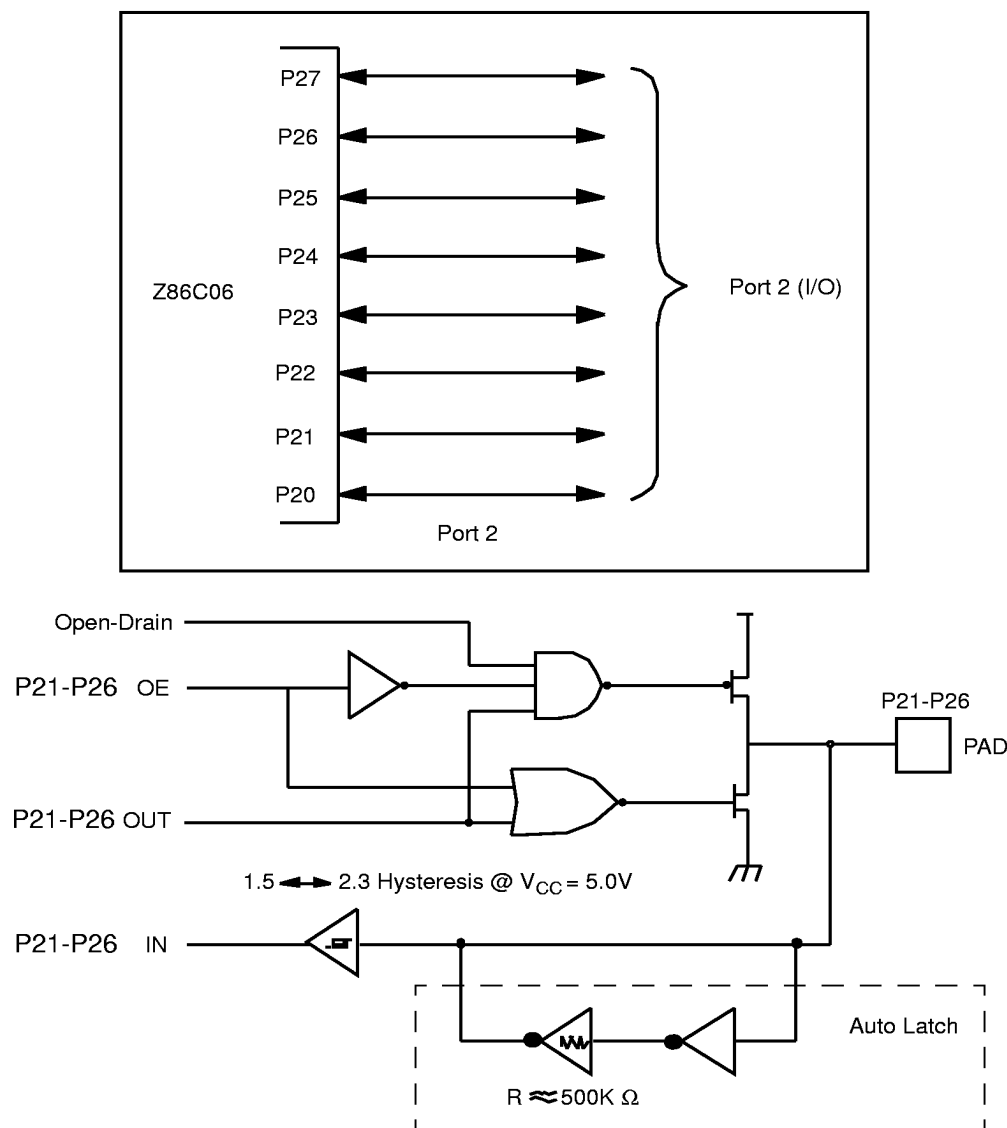

Figure 5. Port 2 Configuration (Z86C06)
**Port 2 (P27-P20).** Port 2 is an 8-bit, bidirectional, CMOS-compatible I/O port. These eight I/O lines can be configured under software control to be an input or output, independently. Input buffers are Schmitt-triggered and contain Auto Latches. Bits programmed as outputs may be globally programmed as either push-pull or open-drain (Figures 5, 6 and 7). Low EMI output buffers can be globally programmed by the software. In addition, when the SPI is enabled, P20 functions as data-in (D1), and P27 Functions as data-out (D0) for the SPI (SPI on the Z86C06 only)